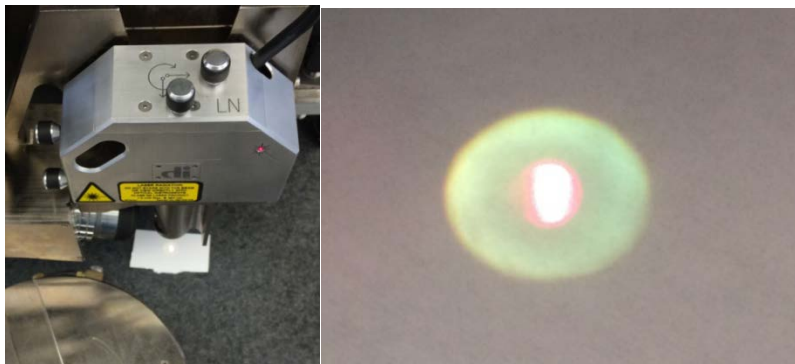

Figure 2. Illustration of laser projection on a piece of paper. The chuck stage is moved to the front left.
Step 3: Check that the laser projection can be seen on a piece of white paper as shown in Figure 2. Check that the laser projection has no intermittency, no distorted shape and no dim brightness. The laser intensity can be checked by reading the sum signal.